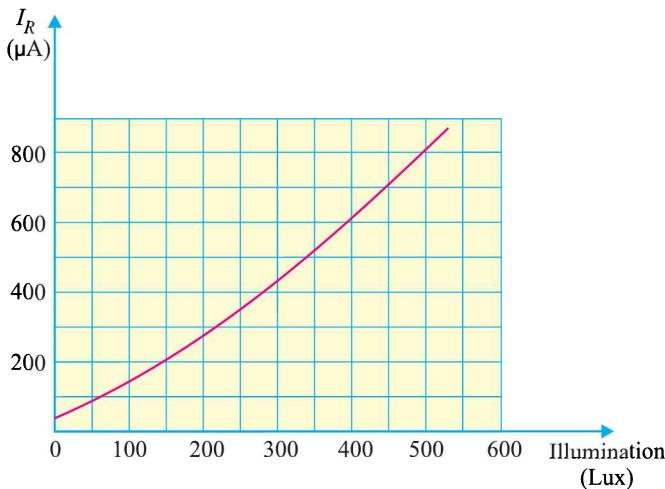

Fig. 7.16
**Example 7.3.** From the reverse current-Illumination curve for a photo-diode shown in Fig. 7.16, determine the dark resistance. Assume a reverse-biased voltage of 10 V.
The current that flows when the incident light is removed from the photo-diode is called *dark current*. The resistance of a photo-diode corresponding to dark current is called *dark resistance*. From the curve shown in Fig. 7.16, it is clear that for zero illumination, the reverse current is 50  $\mu$ A.